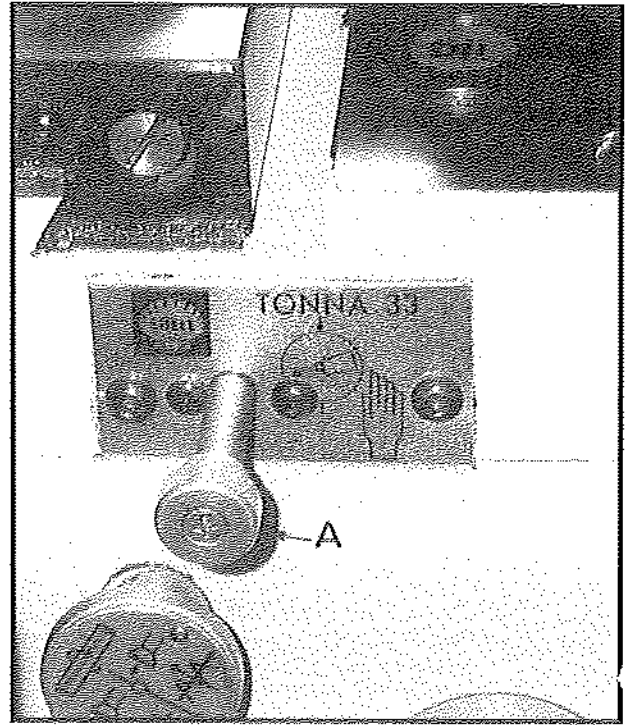

Fig.31
A manually-operated pump (A) (Fig.31) is incorporated in the apron; drawing oil from the apron reservoir, it enables the operator to ensure that the slideways of bed and cross-slide are kept adequately lubricated.